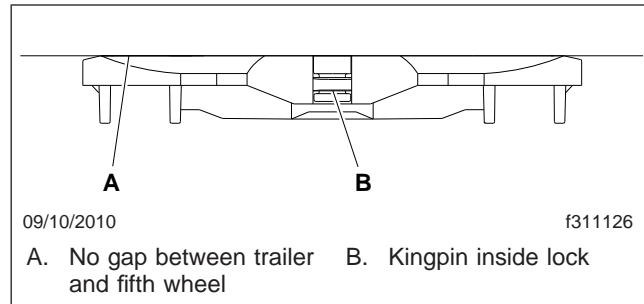

Fig. 18.6, Coupling Inspection
8. Perform a coupling inspection, checking that there is no gap between the bottom of the trailer and the fifth wheel, and that the kingpin is securely locked. See **Fig. 18.6**
- Apply the tractor parking brake, then perform a physical check for positive kingpin lockup, and that there is no gap between the trailer and the fifth wheel. See Fig. 18.6.